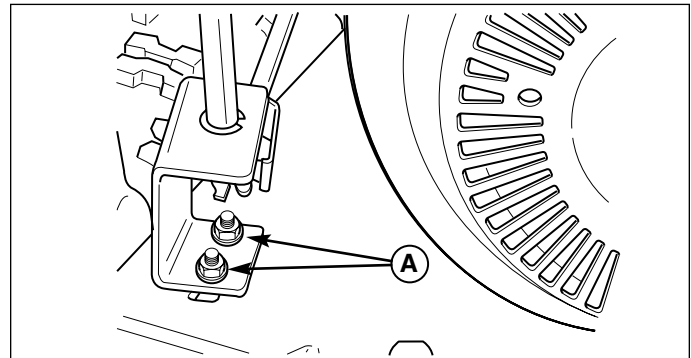

Figure 21. Gear Bracket Adjustment
1. Loosen the gear bracket mounting nuts (Figure 21).